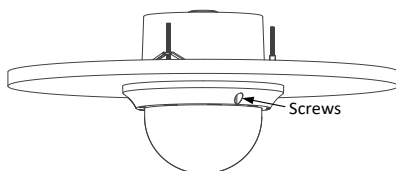

Figure 2-17 Install the Lower Dome
7. Secure the lower dome to the back box with three screws as shown in Figure 2-17.